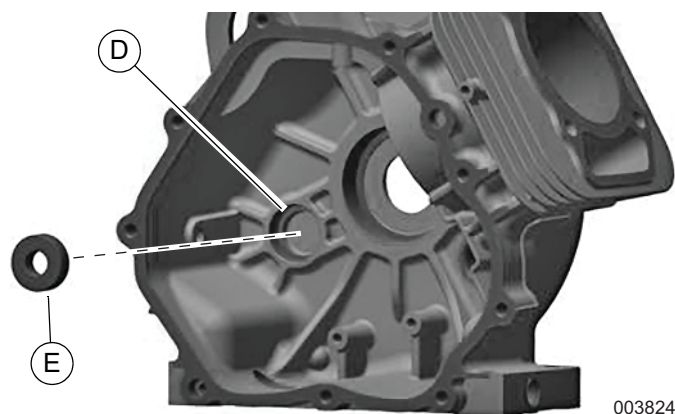

Figure 14-2. Install Crankcase Bearing Bore
2. See Figure 14-2. Verify crankcase side balancer bearing bore (D) is clean and free of burrs or debris. Press crankcase side balancer bearing (E) into bore until fully seated.